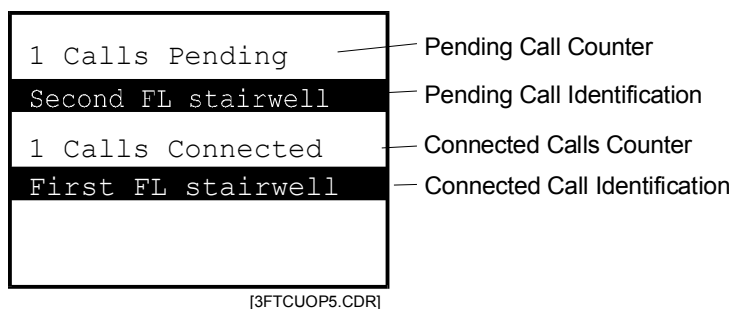

Figure 4-5: 3-FTCU Display - One Connected Call and One Pending Call
3. To answer the selected call, press the Connect switch. The call identifier will move from the pending calls identification line of the display to the connected call list at the bottom of the display, as shown in Figure 4-5. Once connected, you may begin your conversation.
Notice in Figure 4-5 that the calls connected counter indicates one call connected, the first floor stairwell phone, and the pending call counter decremented to show the one remaining incoming call from the second floor stairwell phone.